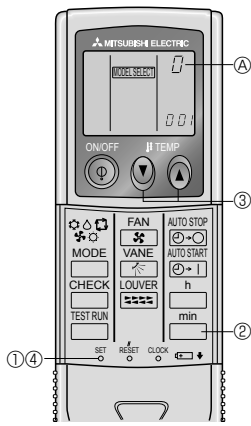

Fig. 6-8
5) Assigning a remote controller to each unit (Fig. 6-8)